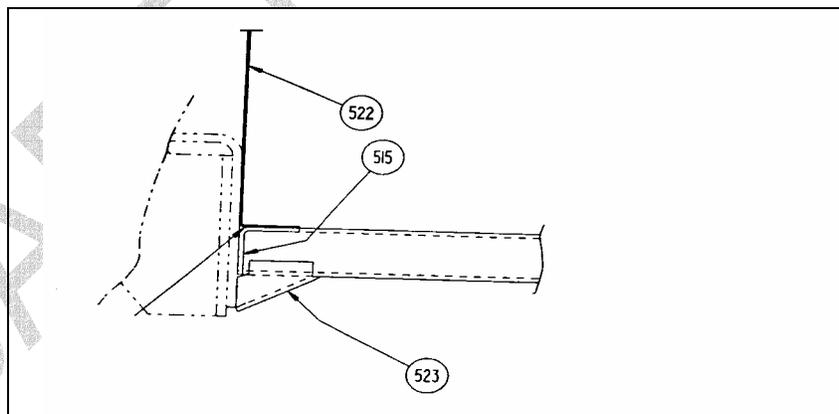
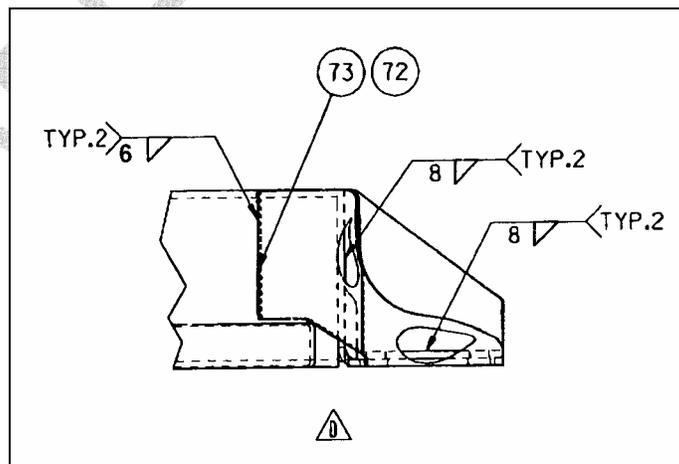

FIGURE 2: REINFORCEMENT BRACKET
FIGURE 3: VERTICAL REINFORCEMENT PLATE
12. Verify if left horizontal reinforcement plate (Prévost #213260) and right horizontal reinforcement plate (Prévost #213259) were installed on structure. If not, check if cracks are present in item 523 welding bead, gouge or grind cracked areas to bare metal and reweld (refer to fig. 2). Install horizontal and vertical reinforcement plates referring to figures 3 and 4 welding specifications.